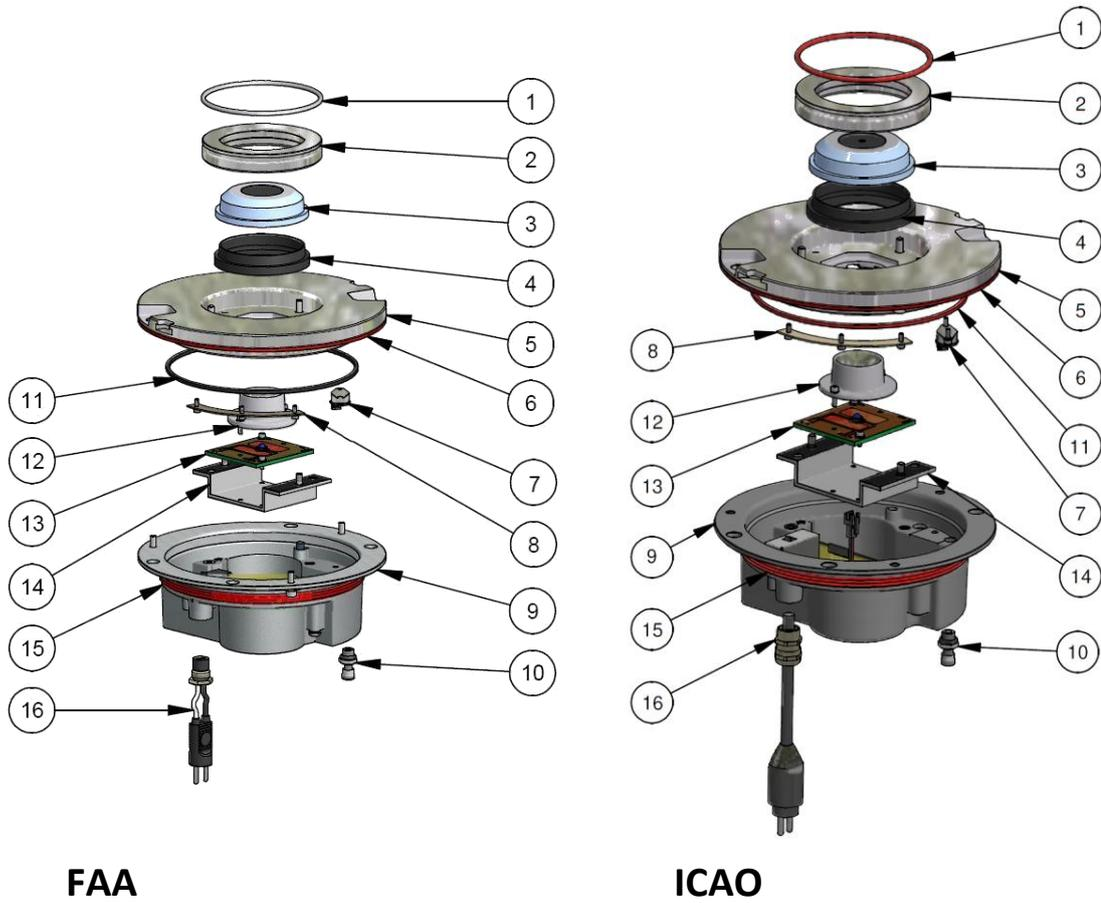

Figure 5 – Exploded View
- Figure 5 – Exploded View 12
The **optical assembly** consists of one lens (Figure 5 - n°3) with relevant gasket (Figure 5 - n°4) and one LED module (Figure 5 - n°13) with reflector (Figure 5 - n°12) kept into the proper position by a support (Figure 5 - n°14).